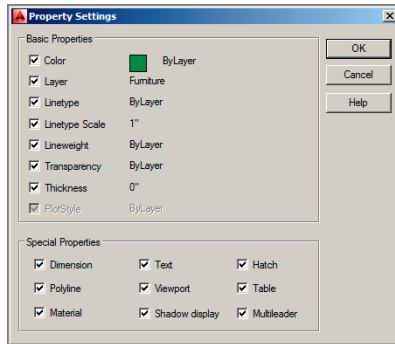

FIGURE 6.11 The Property Settings dialog box allows you to match much more than layers.
9. Click Settings on the command line; the Property Settings dialog box appears. You can match many properties in addition to layers with this tool (see Figure 6.11). Click OK.